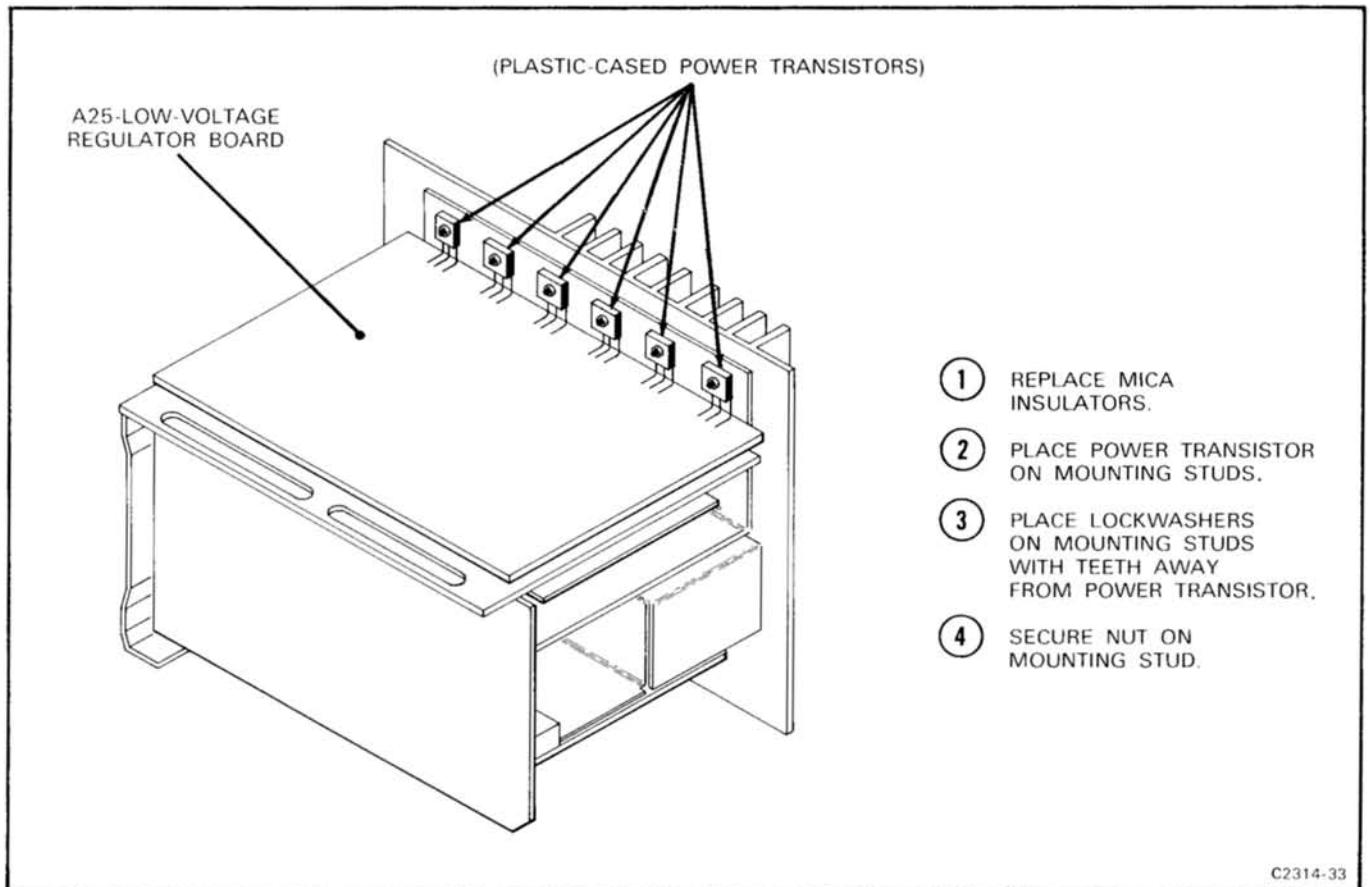

Figure 5-13. Correct placement of power transistor and mounting hardware on rear heatsink.
5. Remove the mounting hardware securing the plastic-cased power transistors to the rear heatsink (see Fig. 5-13). Note the position of the lockwashers so they can be correctly replaced.